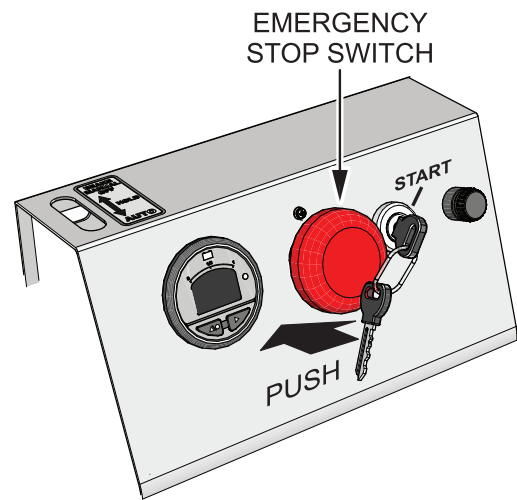

Figure 33. Emergency Stop Switch (Push)
1. Push the **EMERGENCY STOP** switch (Figure 33).